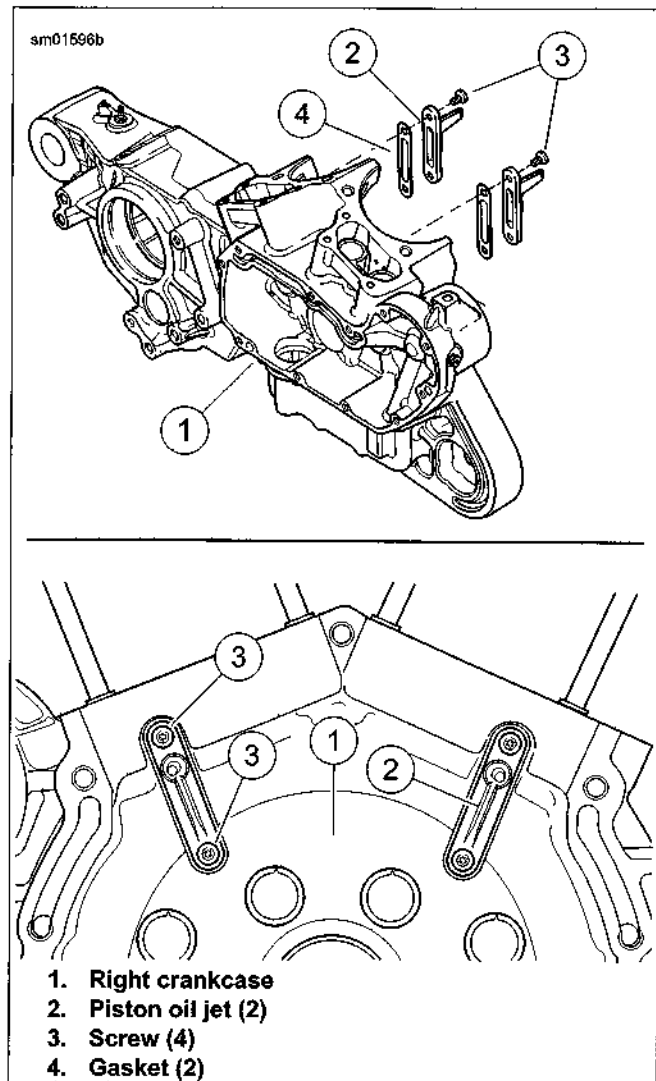

Figure 3-108. Piston Oil Jet Assemblies
- See Figure 3-108. Gasket (4) is part of piston oil jet (2) assembly. It is not sold separately.
- See Figure 3-108. With oil jet pointed upward, install new piston oil jet assemblies (2) with gaskets (4) in right crankcase.
- Apply LOCTITE 222 LOW STRENGTH THREADLOCKER AND SEALANT (purple) to screws (3).